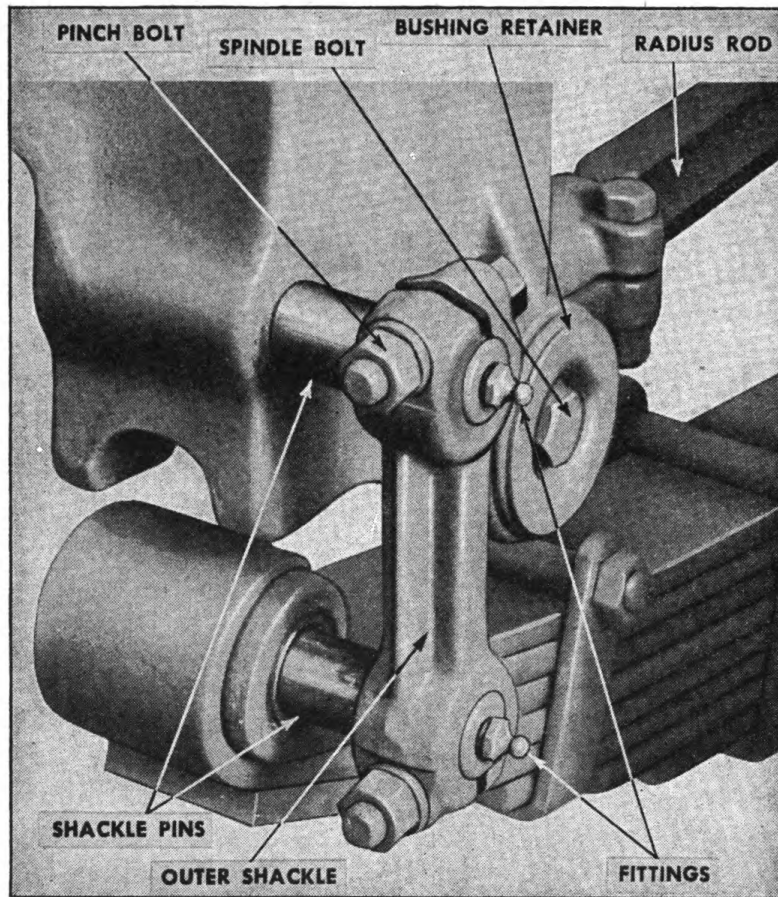

FIGURE 61. REMOVING SHACKLE AND PIN ASSEMBLY.
(2) Disconnect radius rod at front end only (Fig. 61).
(3) Remove inner shackle and drive upper and lower shackle bolt out as an assembly (Fig. 61).
(4) Place a jack between frame and axle to hold weight of the spring off hanger.